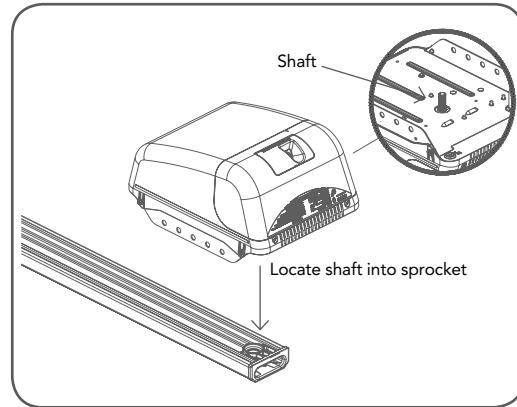

fig 05
- a. Locate and insert the shaft of drive unit into the C-Rail's sprocket (**Fig. 05**).